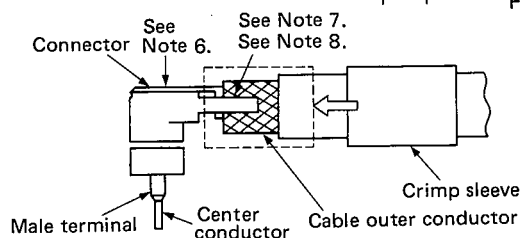

Fig. 5
- (2) Bend the connector lid, as shown in Figure 5.
- (3) The clearance between the outer insulation and the end face of the LP shell must be 5.2 mm or less.
- (4) Slide the crimp sleeve further in up to the base of the support bar. (Fig. 5 dotted line section)